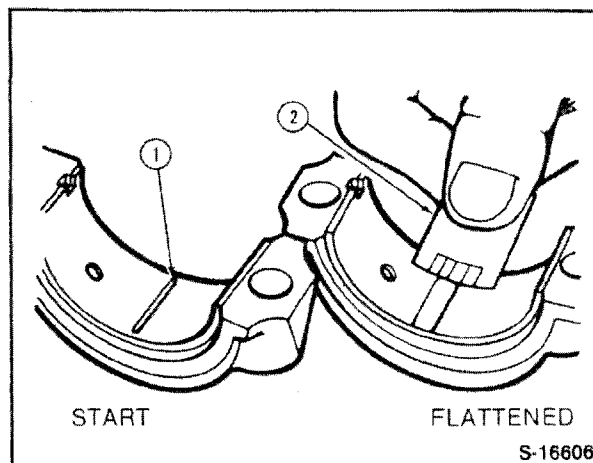

Figure 68
- Position a piece of plastigauge of the correct size across the full width of the bearing liner at approximately 1/4 inch off center. Install the rod cap and tighten to the specified torque, Figure 68.